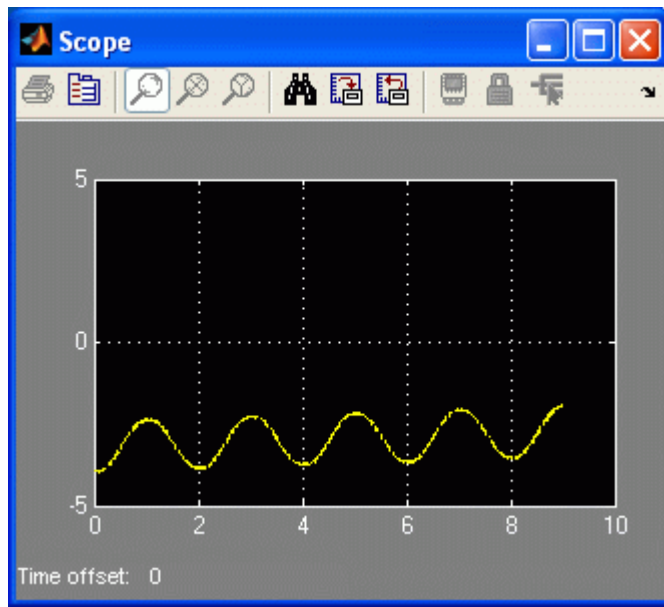

Figure 4: Reading raw voltage from the SRV02 potentiometer.
11. Click on *QUARC | Start* to execute the code. As the SRV02 rotates back-and-forth, the Scope should display the potentiometer readings similarly as shown in Figure 4. Remark that the readings shown are the voltage output of the potentiometer and not an angular measurement in degrees or radians.